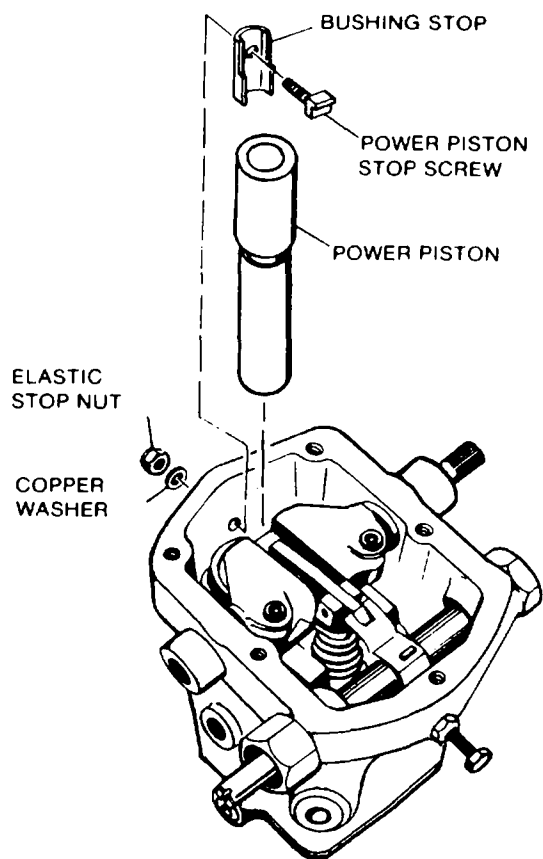

Figure 11-19. Governor Power Piston Assembly
(15) Place power piston assembly into case as shown in figure 11-19.